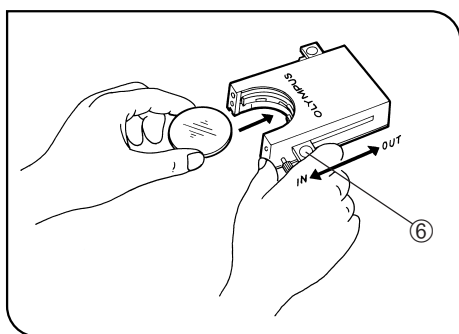

Fig. 8
Using the Filter Cassette (Figs. 8 - 11)
2. Slide the lever ⑥ to the IN position. Make sure that it clicks securely into place. (Fig. 8)
3. Holding the lever in the position shown in Fig. 8, put the filter into the cassette by inserting it in the direction indicated by the arrow.